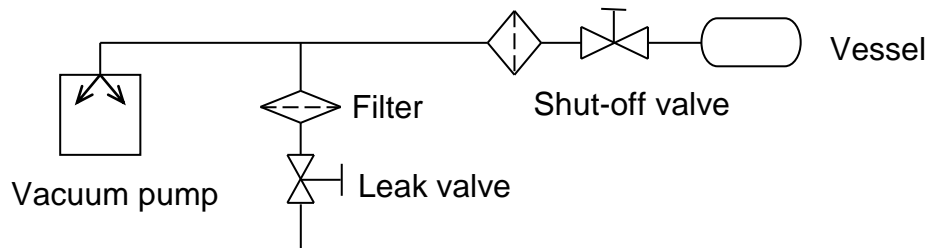

Fig.3 Example of Piping Used When Evacuating a Vessel
- 4) When evacuating a vessel, ensure that a shut-off valve is placed between the pump inlet pipe and the vessel (see Fig.3).